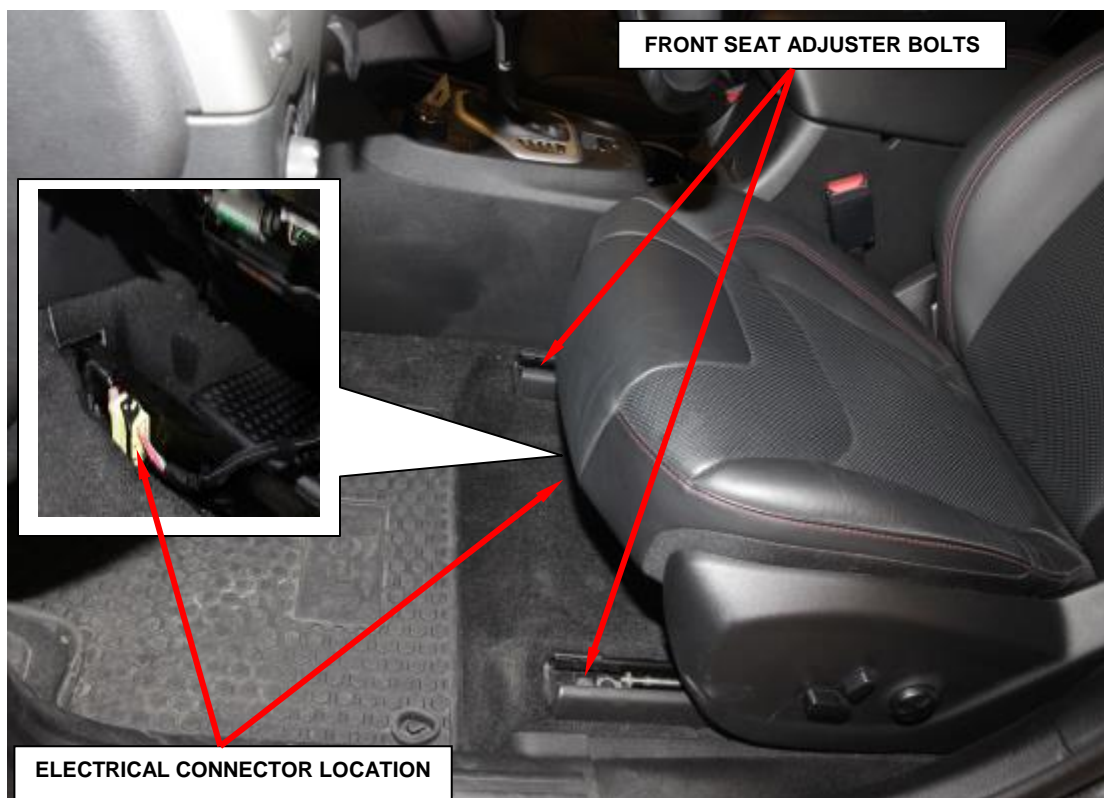

Figure 2 – Front Seat Adjuster Bolts
5. Remove the two front seat adjuster bolts, **both front seats** (Figure 2).
8. Disconnect all electrical connectors (Figure 2).
11. Connect all electrical connectors (Figure 2).
12. Install the two front seat adjuster bolts, **both front seats**. Tighten to 30 ft. lbs. (40 N·m) (Figure 2).